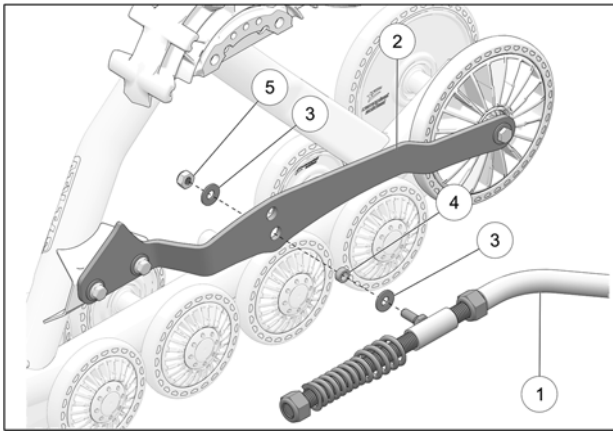

Fig. 5
6. Attach the rear suspension stabilizing rod (1) to the undercarriage bracket (2) using washers (3), bushing (4) and nut (5). Use lower hole. Torque nut to 50 N•m [37 lb•ft]. See Fig. 5